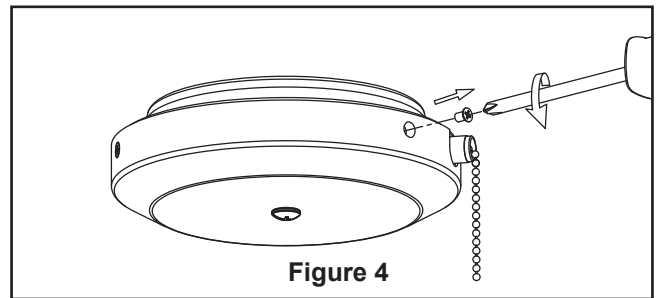

Figure 4
- 7. Disassemble the housing switch cup/adapter assembly by removing three screws. (Figure 4)